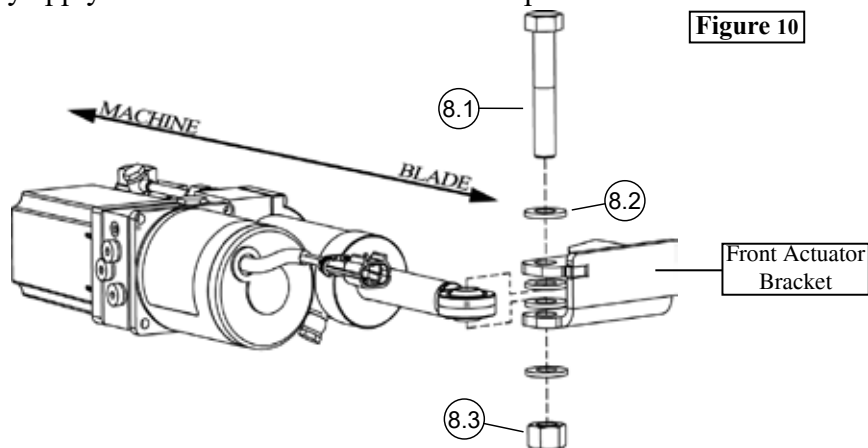
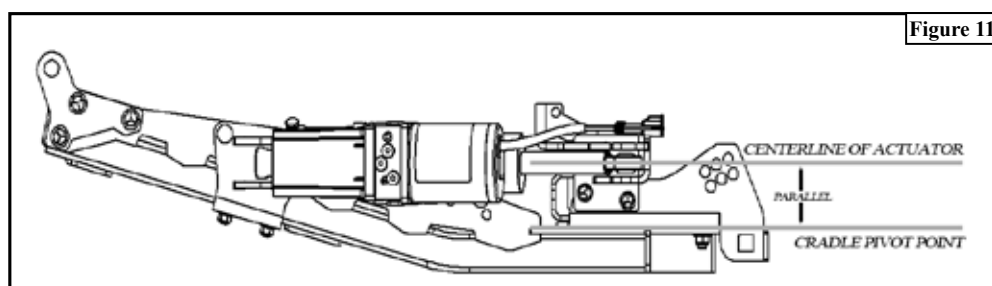

Figure 10
Figure 11
2. Repeat previous step for mounting the front half of the actuator, as shown in **Figure 10**. It is most important that you use the washers to make sure that the actuator is parallel to the cradle swivel point, as shown in **Figure 11**. Both front, and rear bolts should not be tight, thread the nut on until Nylock is fully engaged.
2. Repeat previous step for mounting the front half of the actuator, as shown in Figure 10. It is most important that you use the washers to make sure that the actuator is parallel to the cradle swivel point, as shown in Figure 11. Both front, and rear bolts should not be tight, thread the nut on until Nylock is engaged.